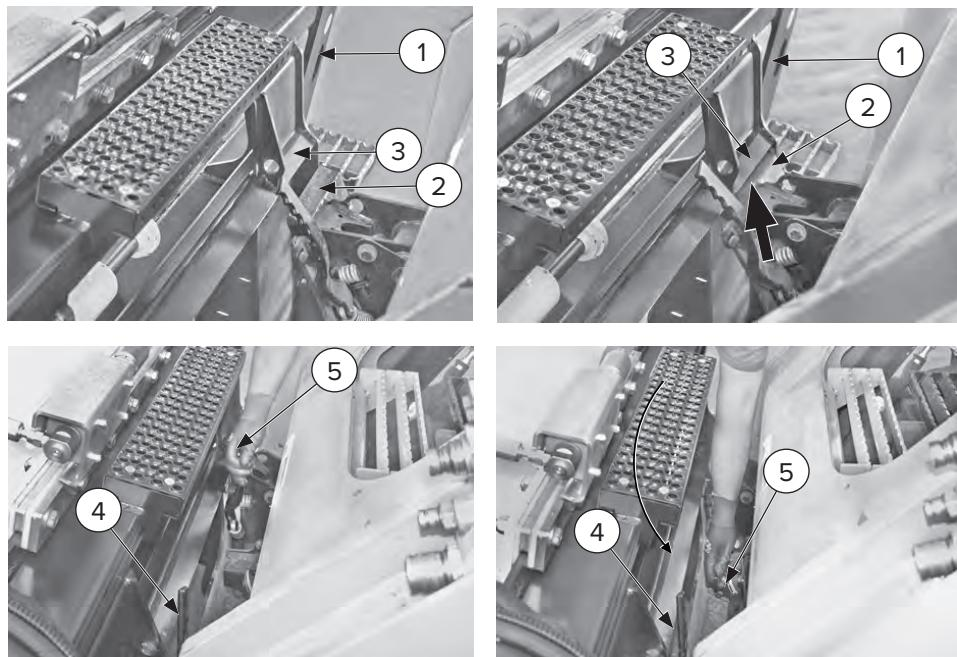

Figure 3
Figure 3 may not represent the attachment described in this manual. The operations in this paragraph are still valid for this model.
1. Position the attachment [Figure 3, Item 1] in the non-operative position and with its skid shoes on flat, compact ground and away from ditches, fuel stores, electrical substations, or any other hazard risks.